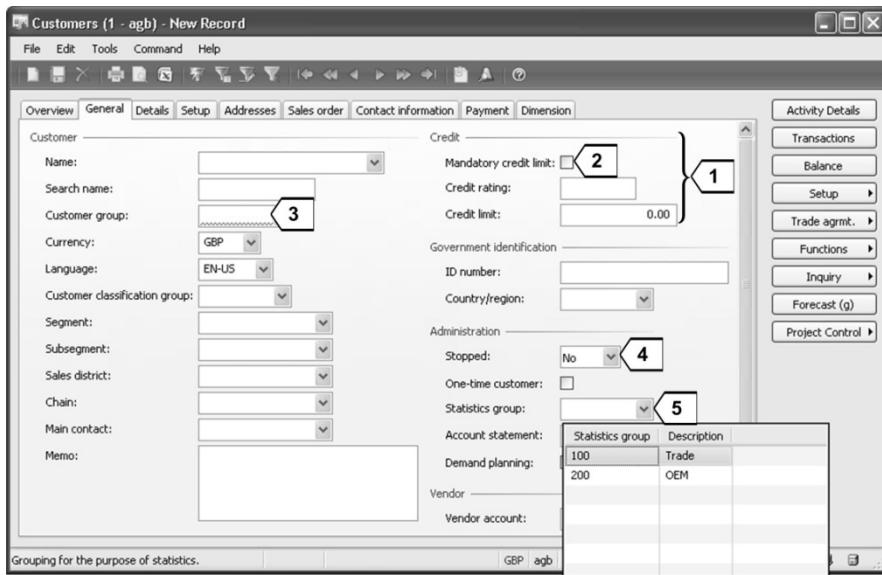

Figure 2.11: Types of fields in a form
When registering data in a form, you have to distinguish between following elements as shown in Figure 2.11:
If you need to select a **checkbox** (e.g. *Mandatory credit limit* in Figure 2.11), you may click it with the left mouse button or push the *Space bar* when the cursor is on the checkbox.
- Lookup fields with a main table, which defines permitted values (e.g. *Statistics group* in Figure 2.11)
- Lookup fields, for which permitted values are given by Dynamics AX (e.g. *Stopped* in Figure 2.11)